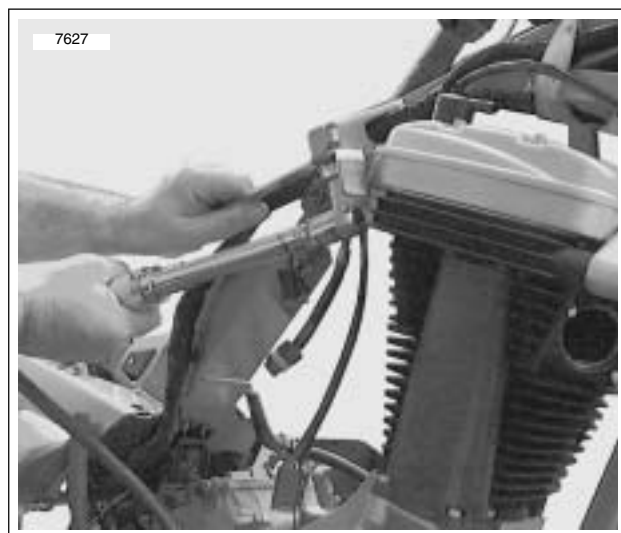

Figure 3-4. Remove Top Rear Tie Bar
13. See Figure 3-4. Remove top rear tie bar at frame.